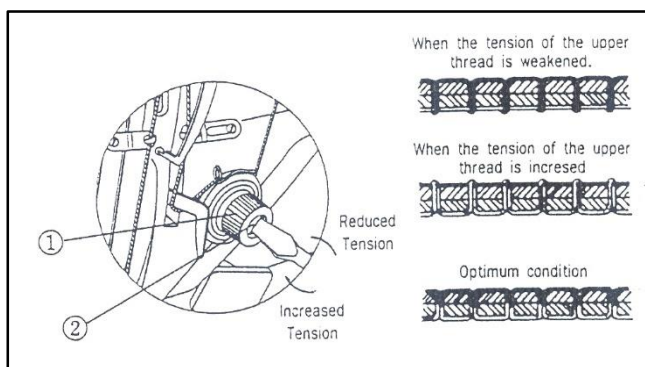

Figure 7.7
As shown in Fig. 7.7, turning the tension adjusting screw (1) clockwise increases the upper thread tension. Adjust the tension of the thread according to the material being sewn, the thread and the number of stitches.
As shown in Fig. 7.7, rotating screw (2) will increase the check spring tension.